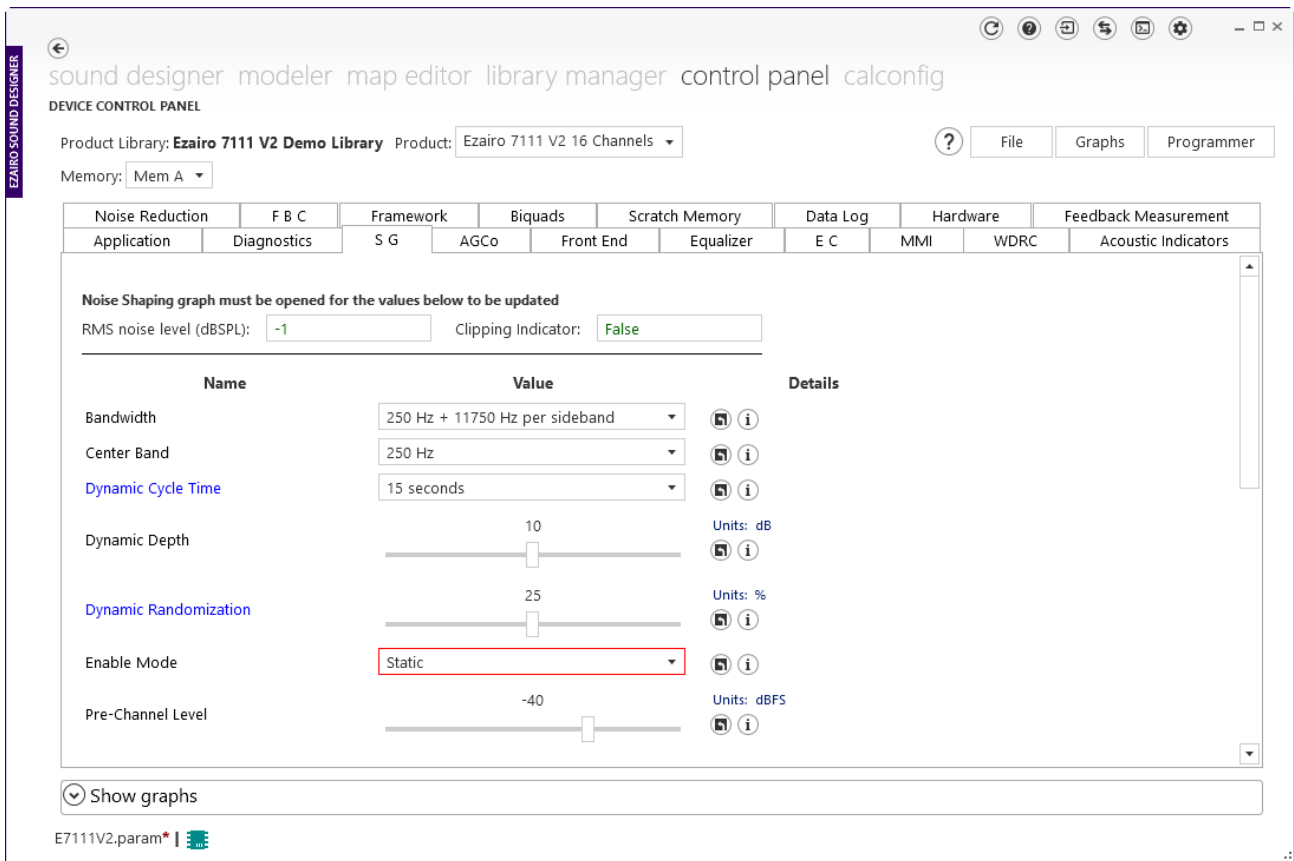

Figure 12. Enabling the Sound Generator
4. Enable the sound generator by selecting **Static** from the drop-down menu for the **Enable Mode** parameter. The Control Panel screen needs to look like the "Enabling the Sound Generator" figure (Figure 12).